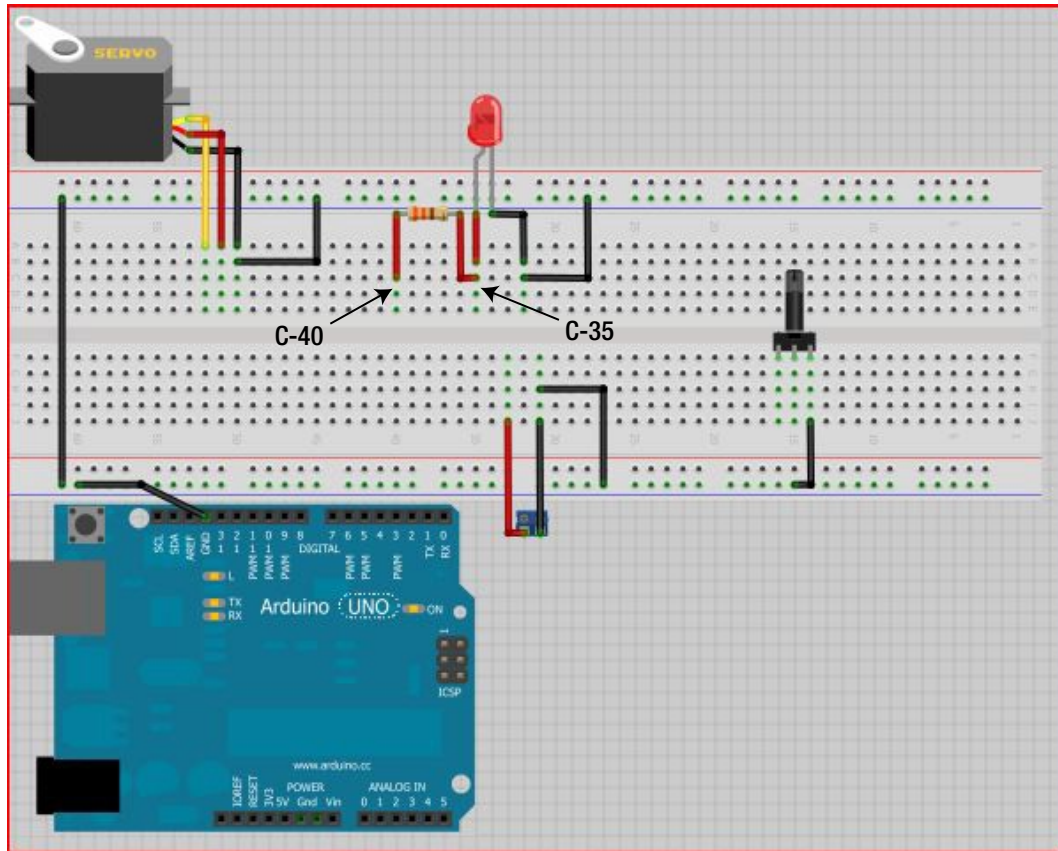

Figure 23-11. Attach the resistor to the solderless breadboard
10. Add the 330-ohm resistor to the breadboard at C-35 and C-40, as shown in Figure 23-11.